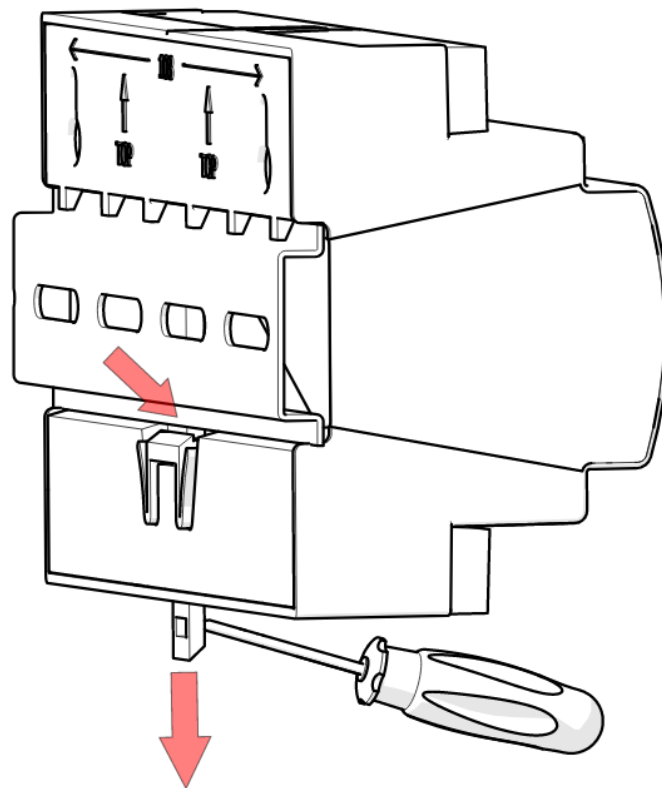

Figure 8. Pull down the spring-loaded retention clip using a flat-blade screwdriver
5. Release the retention clip to lock the unit on the DIN rail. Refer Figure 8.